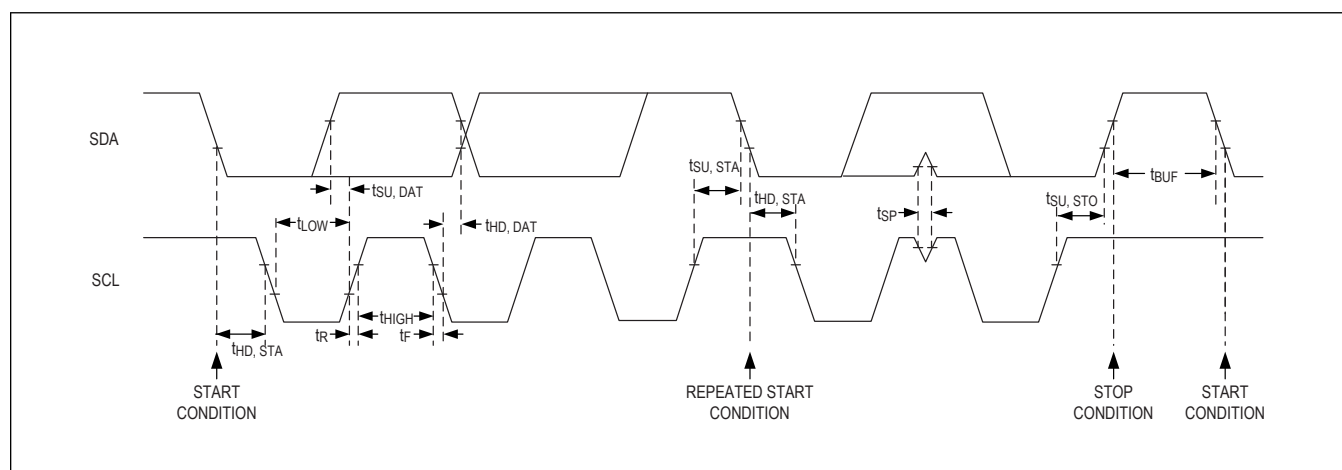

Figure 15. Detailed I²C Timing Diagram
Figure 15 shows the 2-wire interface timing diagram. The master generates SCL and initiates data transfer on the bus. The master device writes data to the MAX86171 by transmitting the proper slave address followed by the register address and then the data word. Each transmit sequence is framed by a START (S) or REPEATED START (Sr) condition and a
The detailed timing diagram of various electrical characteristics is shown in Figure 15.